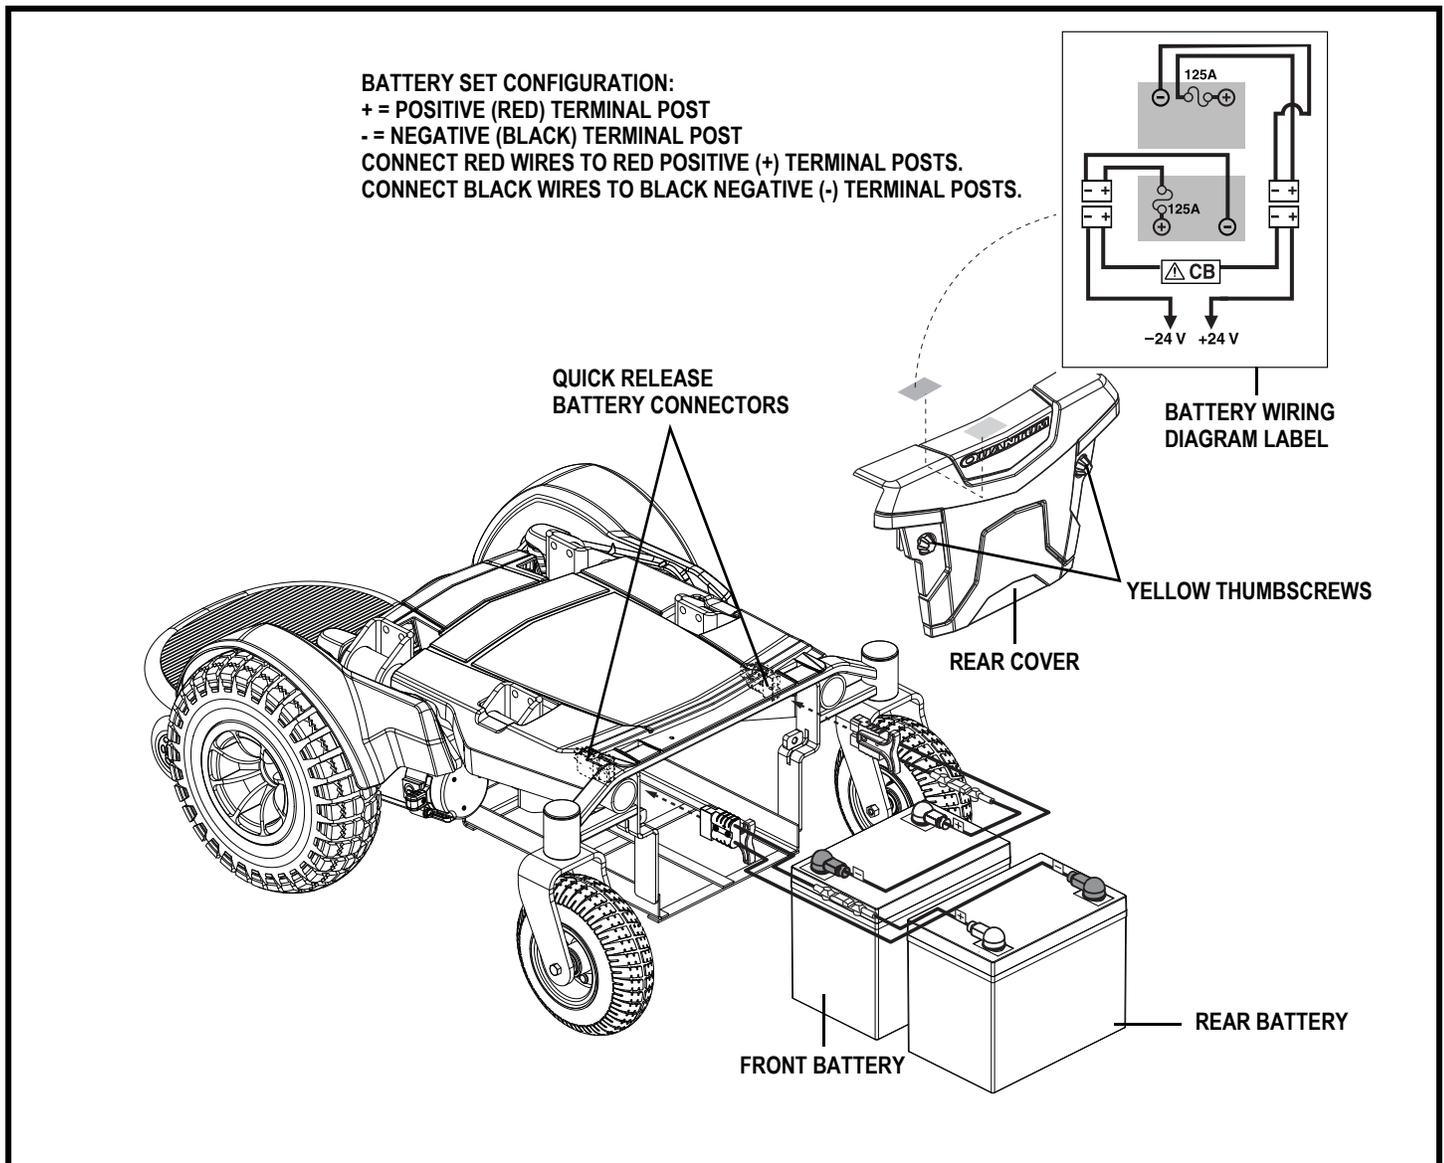

Figure 20. Battery Installation
3. Loosen the yellow thumbscrews (see figure 20) and remove the rear cover.
7. Connect the battery harness to the new front battery according to the battery wiring diagram. See figure 20.
8. Connect the battery harness to the new rear battery according to the battery wiring diagram. See figure 20.